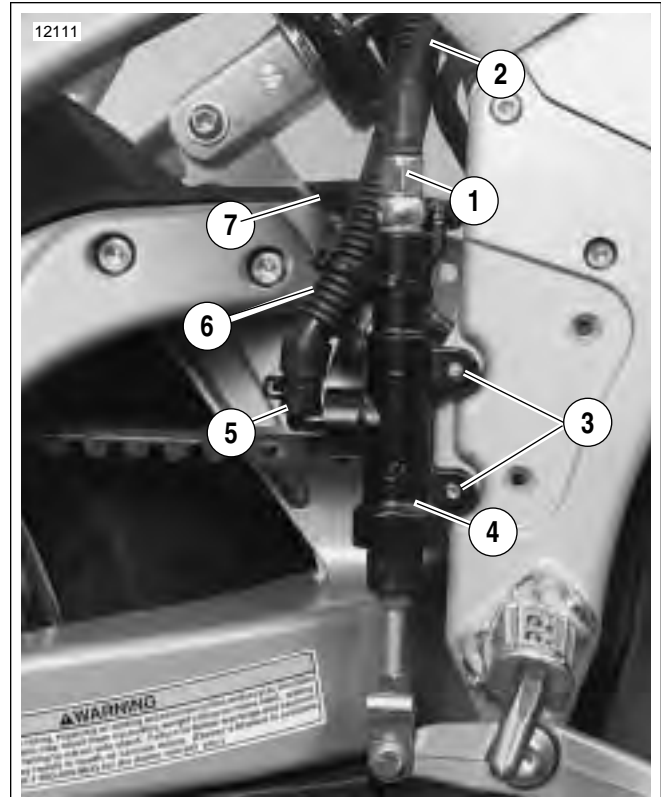

Figure 2-49. Brake Bleeder Valve, Rear Caliper
1. See Figure 2-49. Drain brake fluid into a suitable container. Discard used fluid according to local laws.